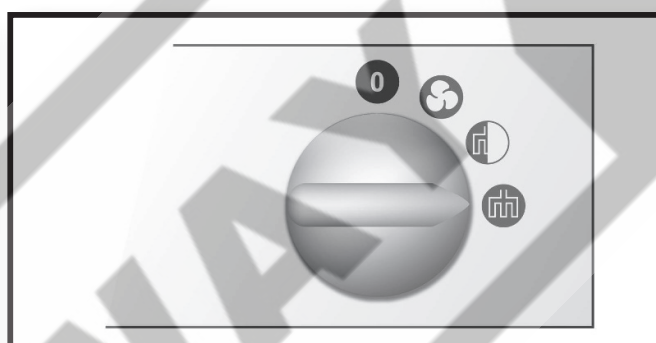

Fig. 7
- 2nd degree of heating: Fig. 7.